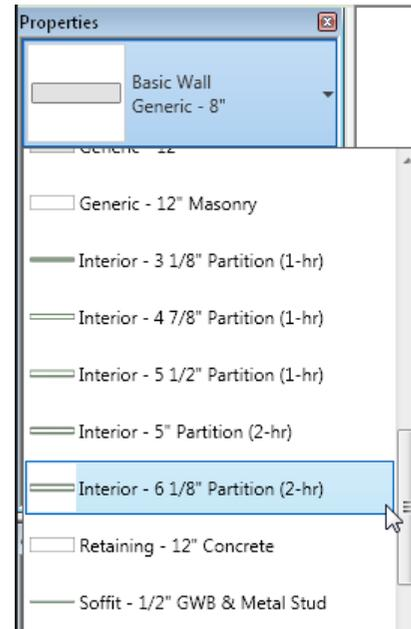

Figure 3-68 Selecting the interior wall type from the **Properties** palette
- b. Invoke the **Wall: Architectural** tool and select the required wall type, refer to Figure 3-68.
1. Select the required option from the **Type Selector** drop-down list in the **Properties** palette, as shown in Figure 3-68.